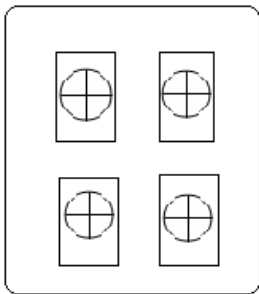

Figure 1
5. Lay out panel and mark with four $\frac{1}{2} \times \frac{3}{4}$ inch rectangles. Figure 1.